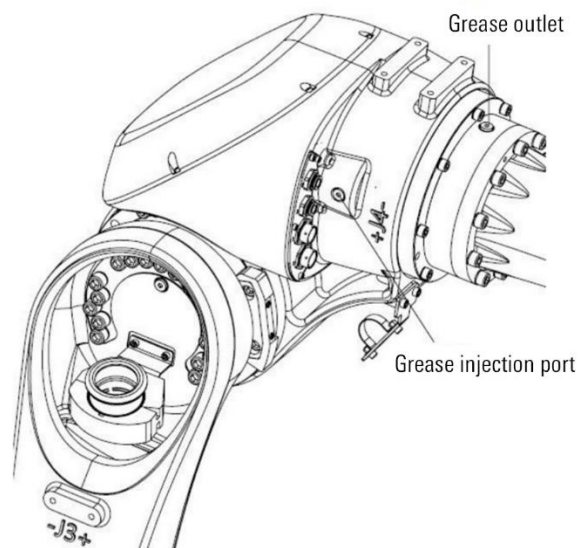

Figure 12-15 Replace the J4 axis reducer grease
- Step4. Remove the M10x1 plug from the grease outlet, as shown in Figure 12-15